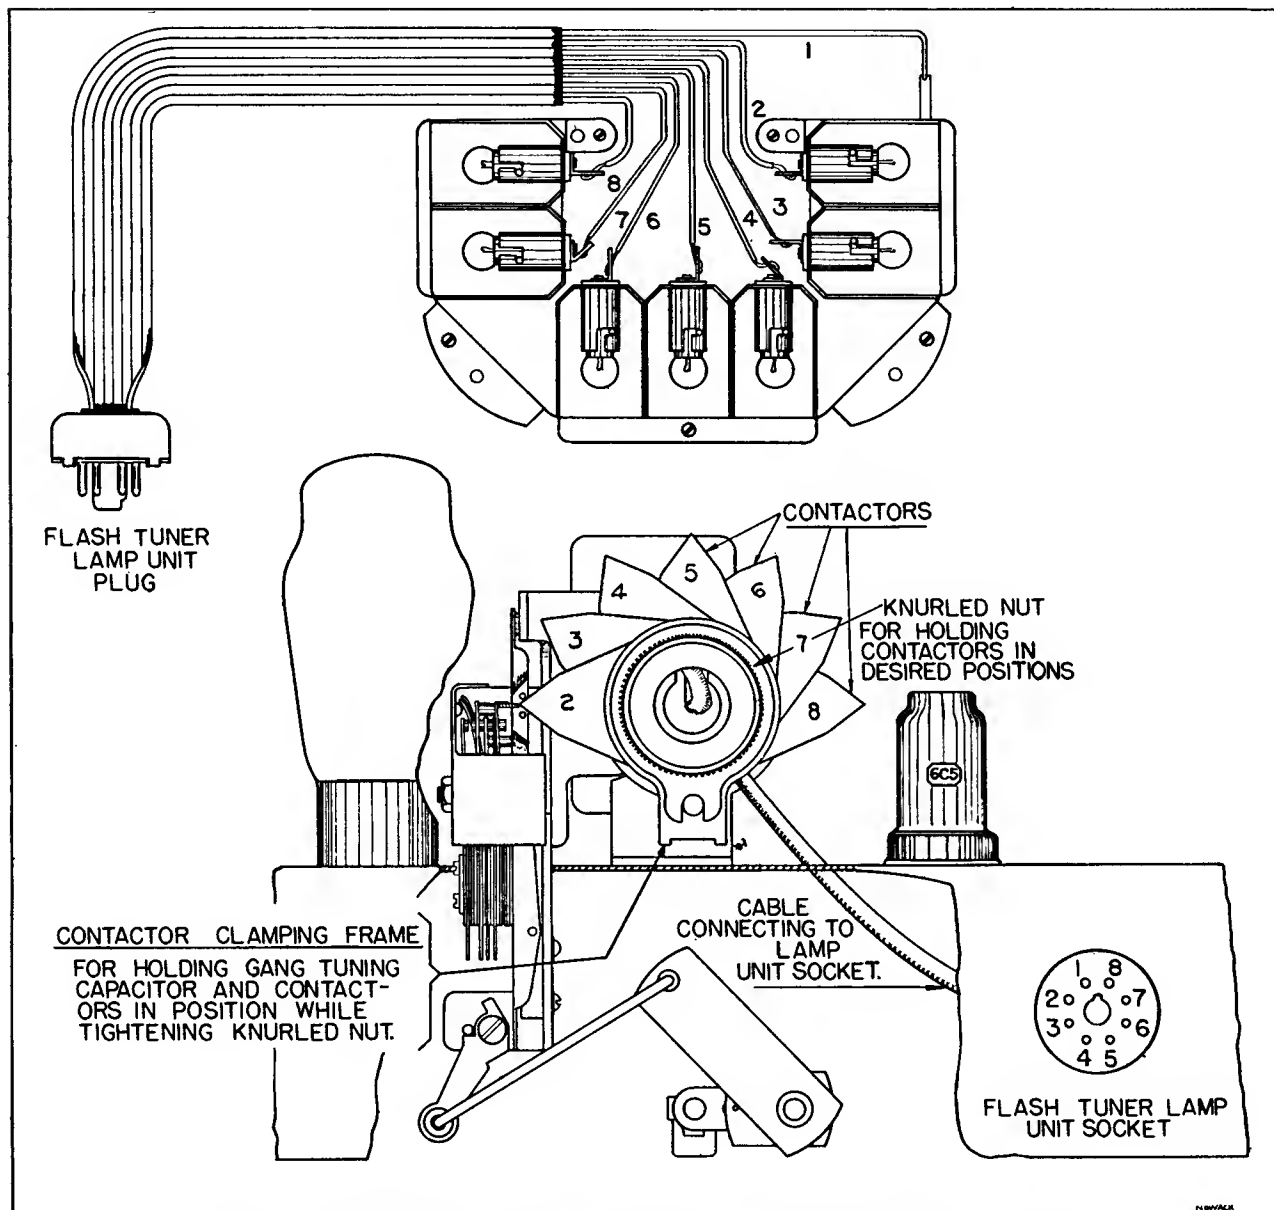

Fig. 3. Showing Flash Tuner Lamp Unit With Escutcheon Plate Removed (Top Figure) and Rear View of Receiver Showing Flash Tuner Mechanism (Bottom Figure).
7. After carefully tuning in the desired station rotate the A. F. C. Control knob to the "On" position. Now, noting from Figure 3, the sketch which shows the contactor clamping frame and knurled nut, hold the clamping frame with one hand and loosen the knurled nut with the other hand. Then move the contactor, numbered 2, so that its point is engaged between the two small rollers of the switching mechanism as also shown in Figure 3. When the point is properly engaged between the rollers, the lamp of the lamp unit which is located behind the station letters of the station being tuned in will light. When this condition is obtained, retighten the large knurled nut and at the same time securely hold the gang tuning capacitor and the contactors from rotating by means of the extended portion of the contactor clamping frame. It is extremely important to keep the gang tuning capacitor and the contactors from rotating when tightening the large knurled nut.